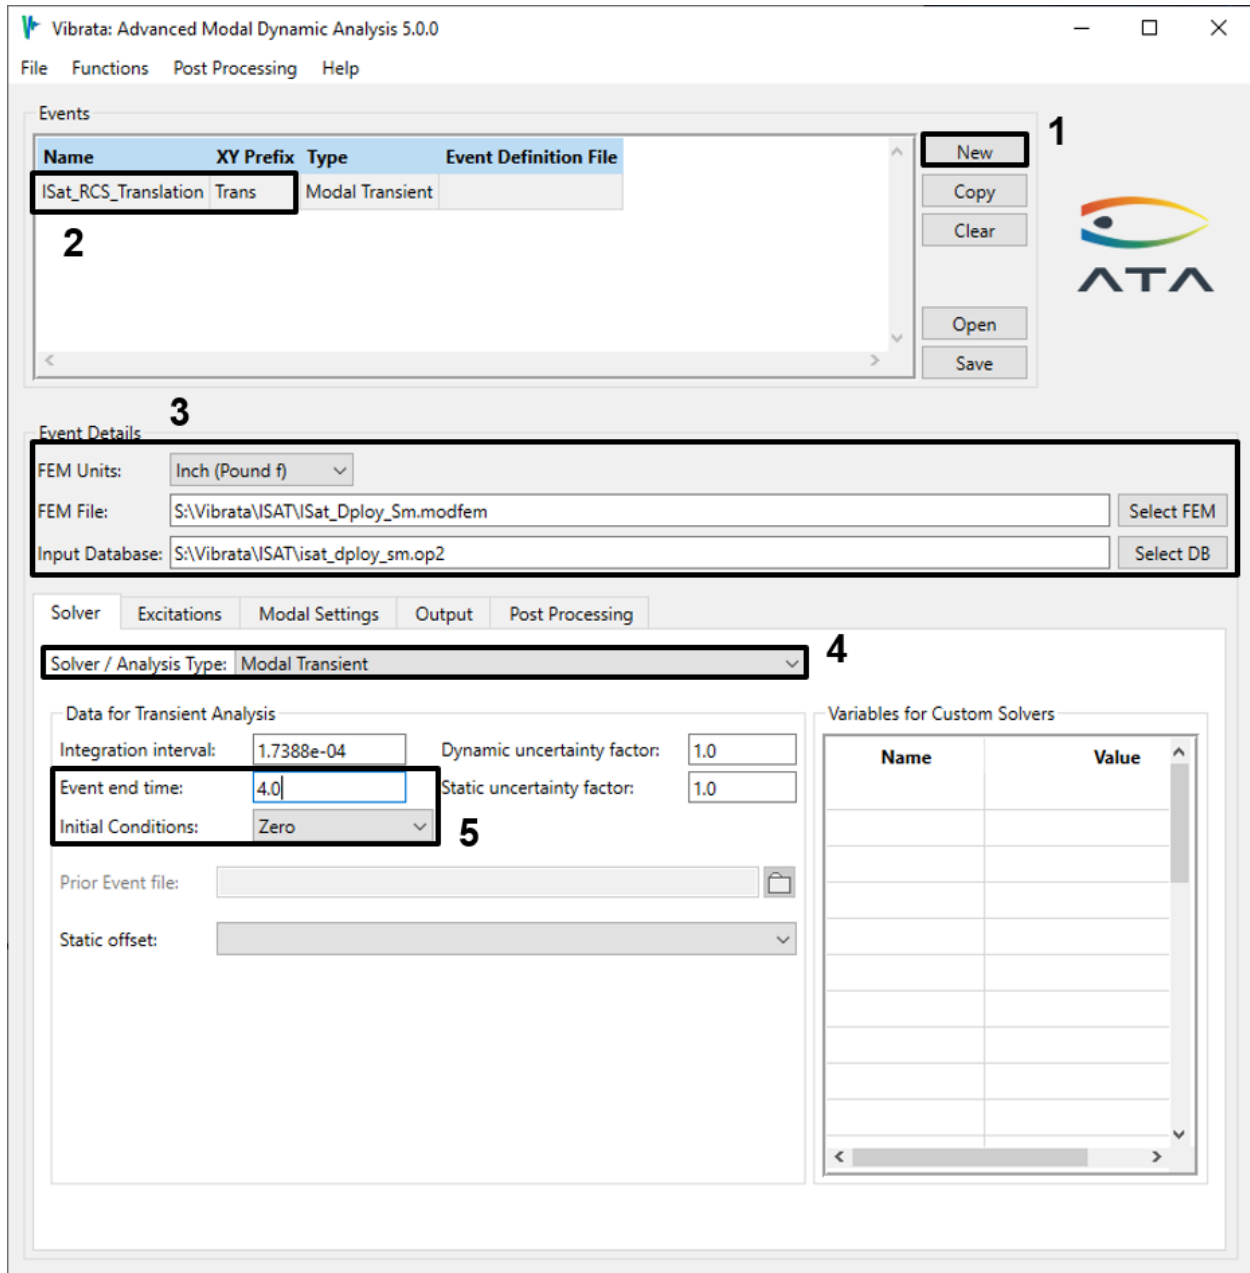

Figure 4-91. Transient event setup for deployed Isat model.
2. In the Event Manager, set up a new transient event and select the Femap file you just created and the OP2 “isat_deploy_sm.op2”. Set the event end time to 4.0 seconds and its initial conditions to Zero. Assign it an informative name. See Figure 4-91.